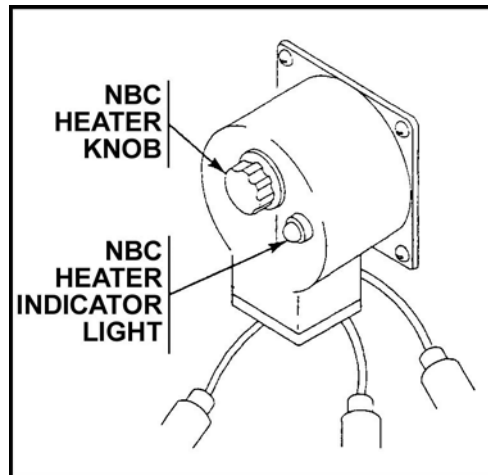

Figure 6. NBC heater switch.
- (1) If the air is too cold to be breathed safely, do step g.
- (2) If the air coming from the air outlet hose can be breathed safely, go to step h.
- g. Operate the NBC heater system (Figure 6).